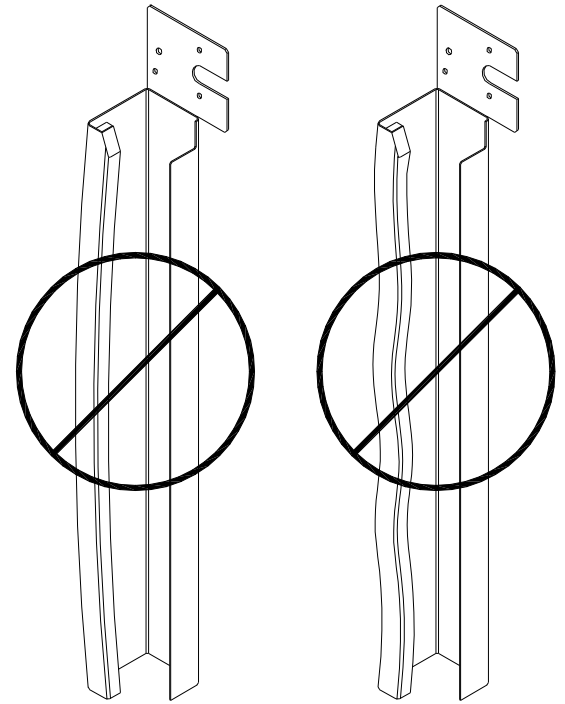

FIG. 6C
**MAKE SURE UPRIGHTS ARE PROPERLY ALIGNED AND NOT DEFORMED** (Figure 6c).